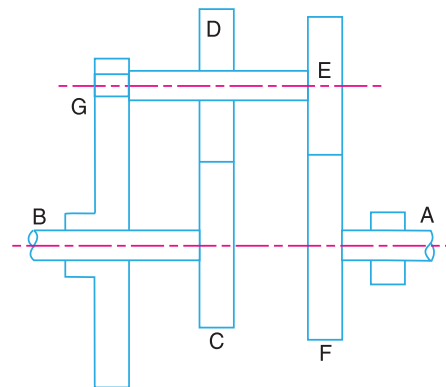

Fig. 13.34
5. In an epicyclic gear train, as shown in Fig. 13.34, the wheel C is keyed to the shaft B and wheel F is keyed to shaft A . The wheels D and E rotate together on a pin fixed to the arm G . The number of teeth on wheels C, D, E and F are 35, 65, 32 and 68 respectively. If the shaft A rotates at 60 r.p.m. and the shaft B rotates at 28 r.p.m. in the opposite direction, find the speed and direction of rotation of arm G . [Ans. 90 r.p.m., in the same direction as shaft A]